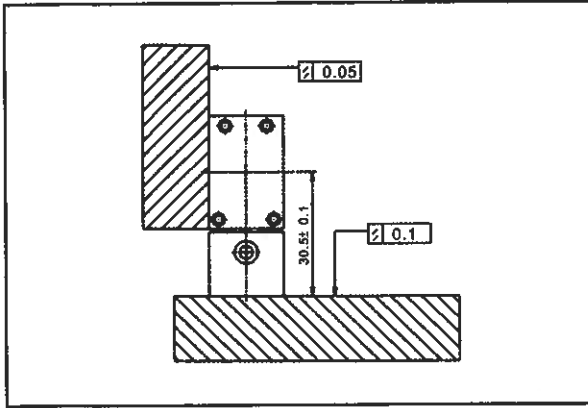

Figure 11. Perpendicular mounting.
- Perpendicular mounting **Figure 11**: The two mounting surfaces must be less than 0.1 mm out of square.